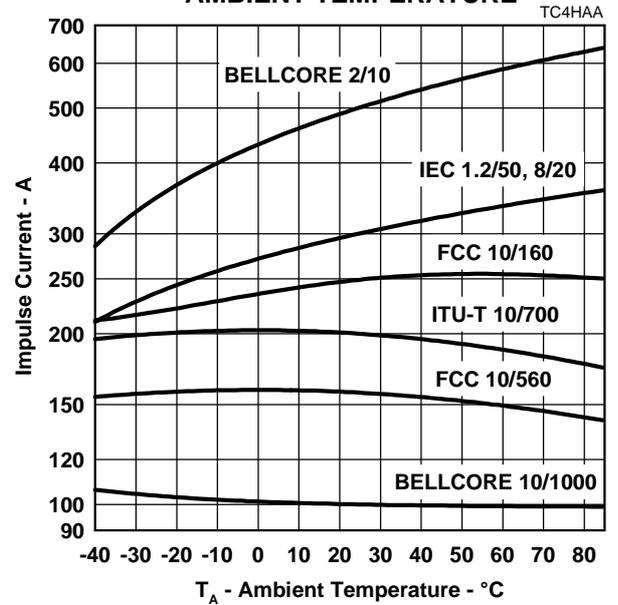

Figure 10.
4. See Applications Information and Figure 10 for current ratings at other temperatures.
If the impulse generator current exceeds the protectors current rating then a series resistance can be used to reduce the current to the protectors rated value and so prevent possible failure. The required value of series resistance for a given waveform is given by the following calculations. First, the minimum total circuit impedance is found by dividing the impulse generators peak voltage by the protectors rated current. The impulse generators fictive impedance (generators peak voltage divided by peak short circuit current) is then subtracted from the minimum total circuit impedance to give the required value of series resistance. In some cases the equipment will require verification over a temperature range. By using the rated waveform values from Figure 10, the appropriate series resistor value can be calculated for ambient temperatures in the range of -40 °C to 85 °C.